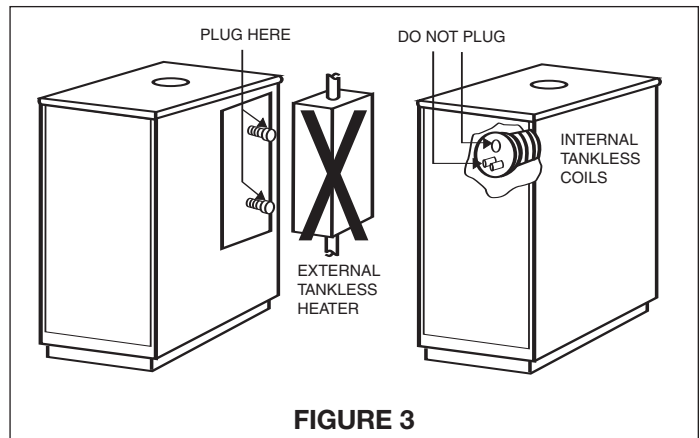

FIGURE 3
**⚠ DANGER** PREVENT PRESSURE BUILD-UP IN ANY EXISTING INTERNAL TANKLESS COIL. Do not plug incoming or outgoing tapings in the internal tankless coil plate. Leave the coil in the boiler and leave system connections open, to prevent pressure build-up. (Figure 3)